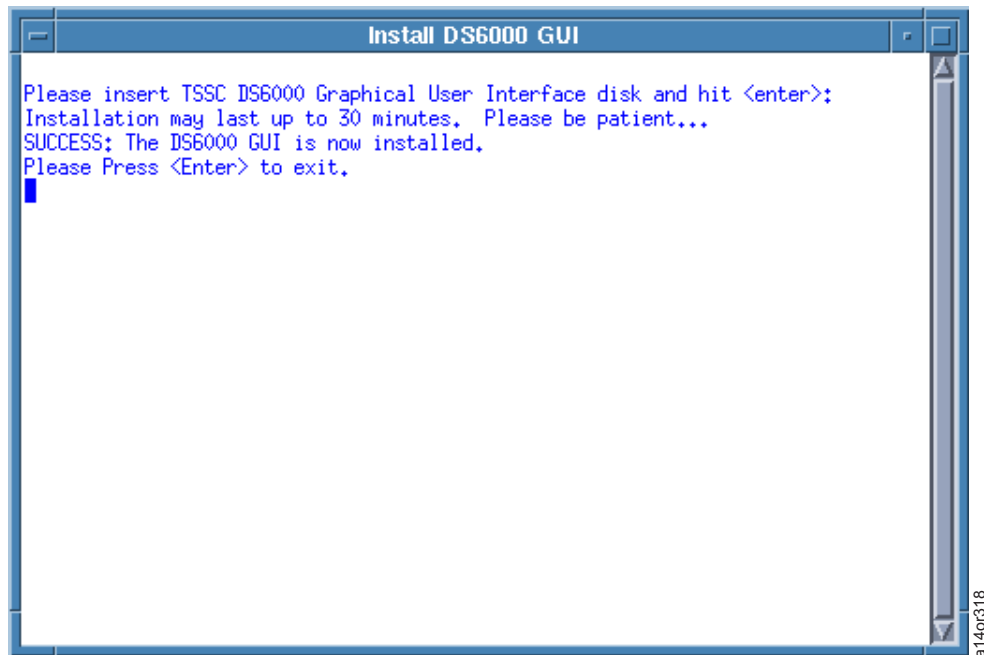

Figure 2-69. Install DS6000 GUI
2. From the Main Menu, select **Browser Functions > Storage Manager GUI Functions > Install GUI.** A Terminal window that is similar to Figure 2-69 on page 2-50 appears and prompts you to insert the appropriate Storage Manager Graphical User Interface CD-ROM.